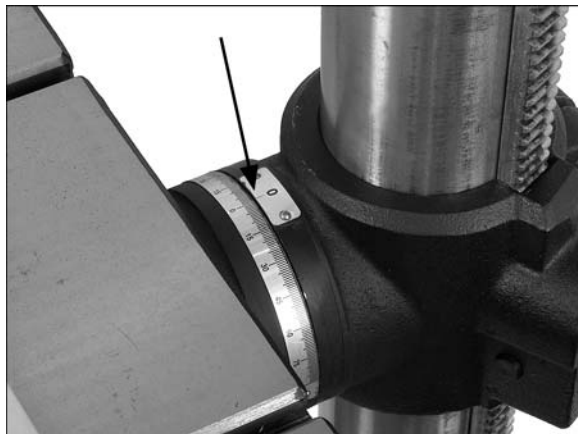

Figure 17
2. Pivot table to desired angle by aligning scale on table to line on indicator plate (Figure 17).
3. Re-tighten bolt (D) and handle (E).
4. When returning table to horizontal position, loosen handle (E) and bolt (D), tilt table back to zero degrees on scale, and tighten handle (E), then tighten bolt (D).